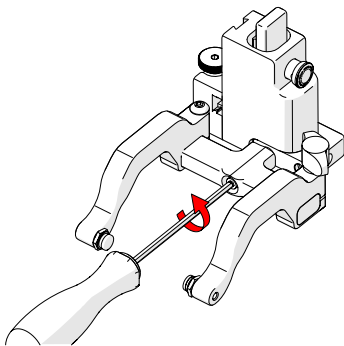

Fig. 199 - Remove yoke
1. Using the supplied 3 mm driver, unscrew the yoke (Fig. 199).